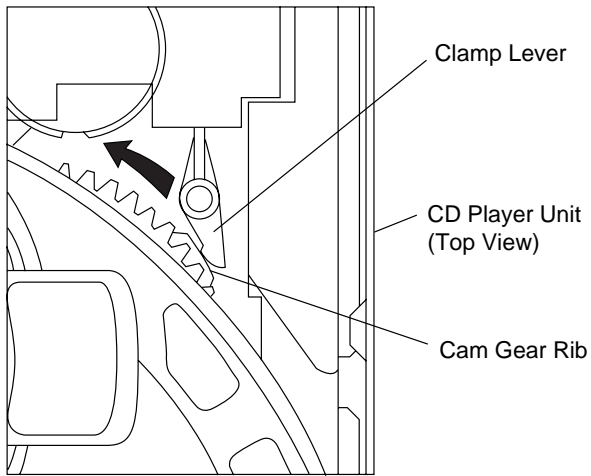

Figure 10-1
2. While holding the lock lever, rotate the cam gear anticlockwise until the cam gear rib engages with the clamp lever. (Fig. 10-1)